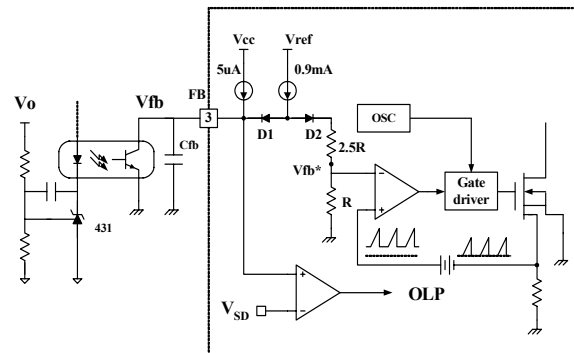

Figure 5. Pulse width modulation (PWM) circuit
**2. Feedback Control :** The FSDx0365RNB employs current mode control, shown in figure 5. An opto-coupler (such as the H11A817A) and shunt regulator (such as the KA431) are typically used to implement the feedback network. Comparing the feedback voltage with the voltage across the  $R_{sense}$  resistor plus an offset voltage makes it possible to control the switching duty cycle. When the reference pin voltage of the KA431 exceeds the internal reference voltage of 2.5V, the H11A817A LED current increases, thus pulling down the feedback voltage and reducing the duty cycle. This event typically happens when the input voltage is increased or the output load is decreased.